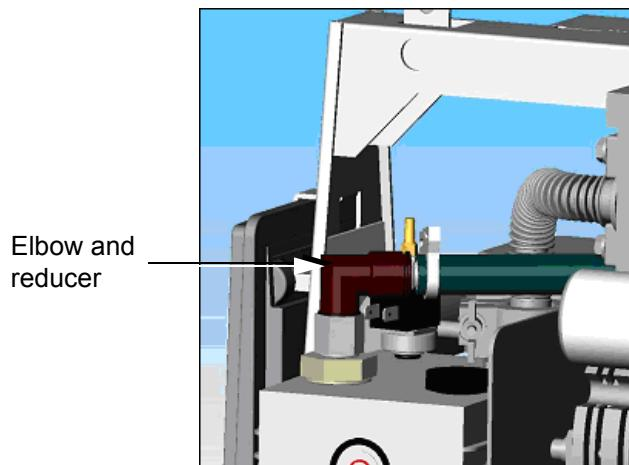

Figure 1: Unit Before Install
5. Remove the elbow and reducer using an adjustable wrench (Figure 1: Unit Before Install).